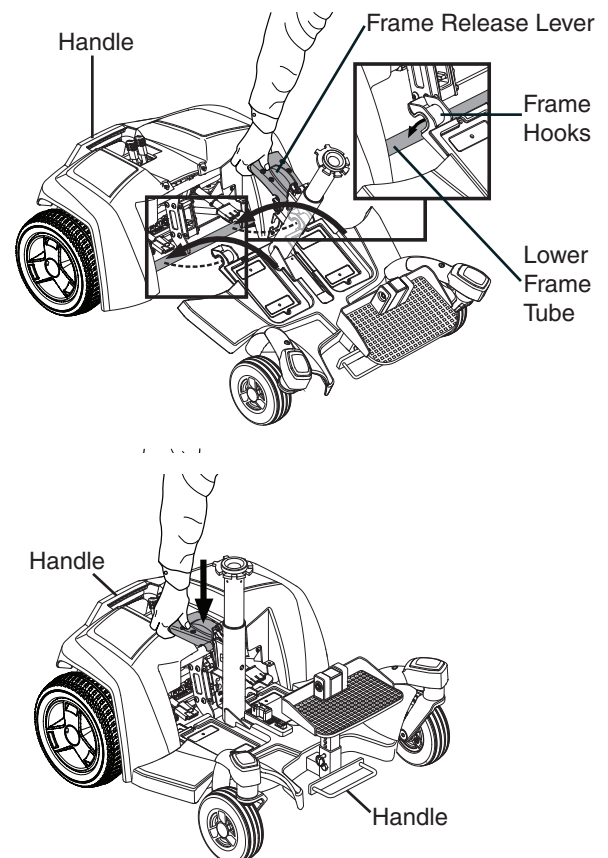

Figure 6. Kozmo Portable Assembly
1. Use the frame release lever to lift the front section as you align the frame hooks of the front section with the lower frame tube of the rear section. See figure 6.
2. Once the frame hooks are over the lower frame tube, lower the front section and pivot the rear section simultaneously. This will engage the frame lock-up automatically. See figure 6.